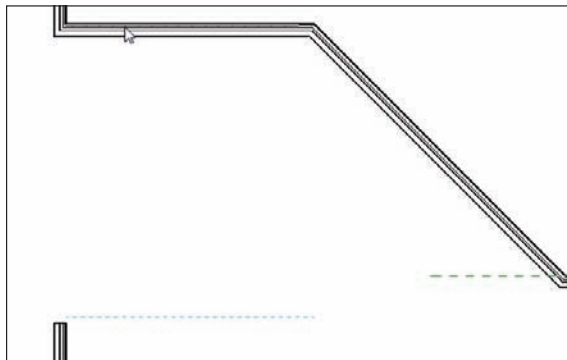

FIGURE 2.12 Adding a wall using the built-in offset function may take a few tries to get the method down.
4. Move your cursor over the outside face of the wall, as shown in Figure 2.12. When you see the alignment line appear below the wall, pick the outside face, as shown in Figure 2.12.